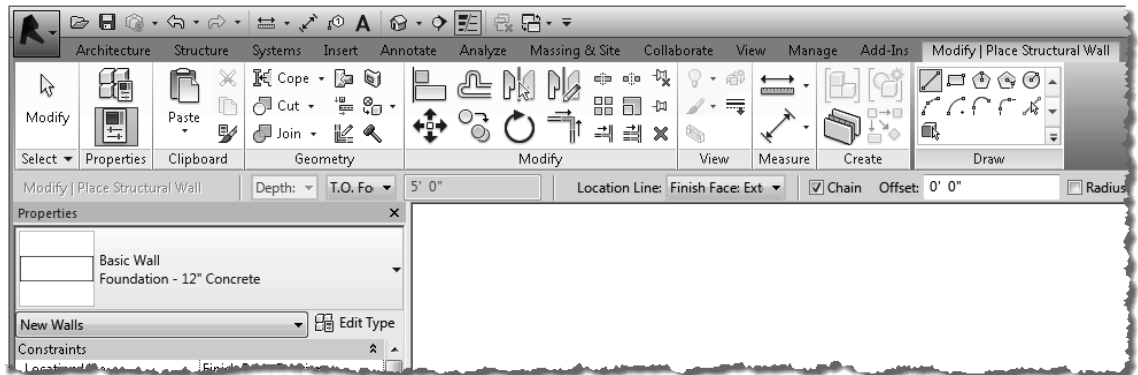

FIGURE 7-5.2 Wall tool – *Ribbon* and *Options Bar* for foundation walls
11. Set the *Type Selector* to **Foundation – 12" Concrete** (Figure 7-5.2).
12. Set the *Location Line* to **Finish Face: Exterior** on the *Options Bar* (Figure 7-5.2).
13. Make sure the *Depth* is set to **T.O. Footing** on the *Options Bar* (Figure 7-5.2).